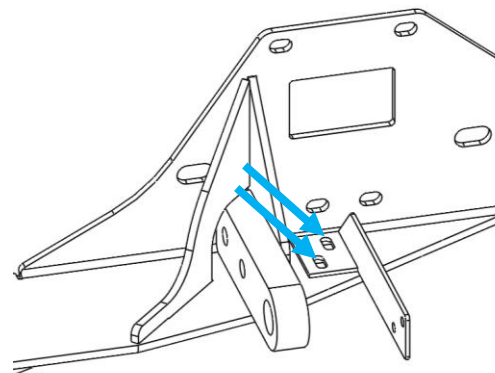

Figure 23: Light Bar Strap Installation Location
32. Install Light Bar Straps onto the winch tray using the ¼"-20 x 1" bolts with corresponding washer and nuts. Reference Figure 23.